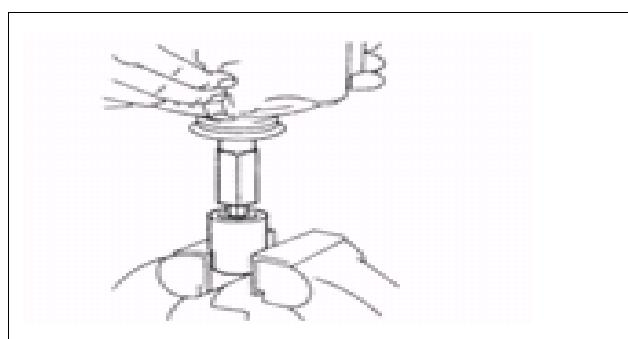

Figure 436
- Use a torque wrench to hold special tool (A) and tighten special tool (B) in a clockwise direction to the required torque (see Fig. 436).